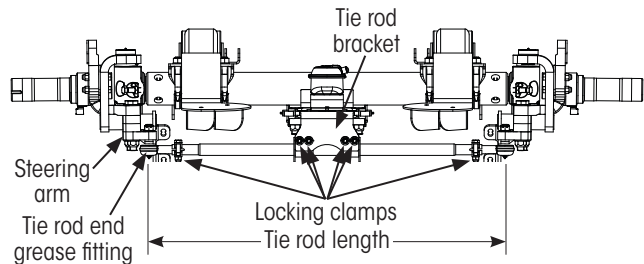

Figure 10: Measuring tie rod length
1. **Measure** and **record** the tie rod length as shown in Figure 10, grease fitting to grease fitting dimension.
6. **Measure** and **record** the tie rod length as shown in Figure 10, grease fitting to grease fitting dimension.
7. **Rotate** tie rod until the grease fitting to grease fitting dimension (Figure 10) matches the measurement recorded in Step 1 of the previous procedure.
6. **Tighten** tie rod bracket clamp bolts (Figure 10 on page 10) to the specified torque².